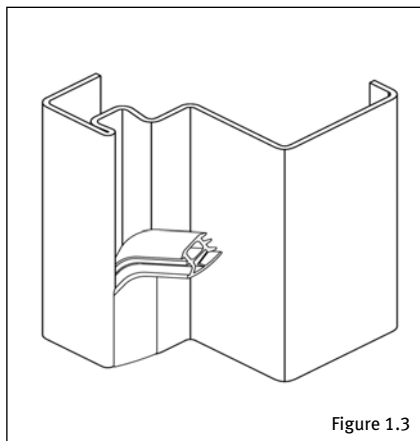

Figure 1.3
- 3.7 Press the rubber seal into frame groove (3 sides on the door/4 sides on the flap) by hand so that the frame sealing wedge meets at the corners (avoiding substantial tension) (Figure 1.3). Check how the latch and bar catch and file the closing opening in the frame if needed.
- 5.9 Insert the rubber seal into frame groove (3 sides on the door/4 sides on the flap) (avoiding substantial tension) (Figure 1.3). Check how the latch and bar catch and file the closing opening in the frame wherever necessary. Then grease the latch slightly.